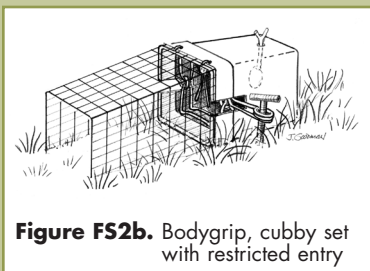

Figure FS2b. Bodygrip, cubby set with restricted entry
- May need additional protection in some areas to avoid capture of non-target animals through use of restricted entry cubby sets and elevated pole sets (Figures FS2b and FS2c)